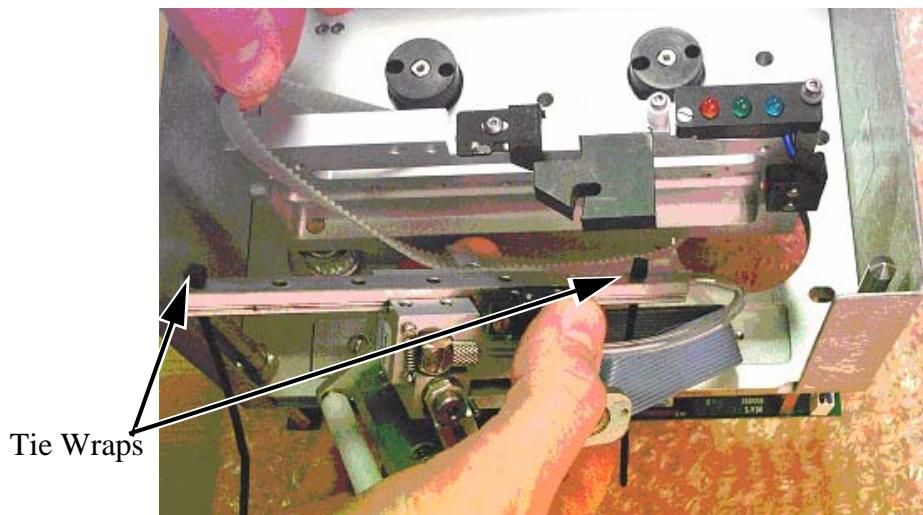

Figure 5-75: Linear Slide Rail - Tie Wraps
Note: The linear slide rail is free moving. Ensure that it does not slide out of the slide carriage as the balls may fall out. To prevent this, it is recommended that you immediately place a tie wrap or piece of wire or similar through the end holes of the slide as shown in Figure 5-75.
- 6 Lift the timing belt over the slide support plate as shown in Figure 5-75.